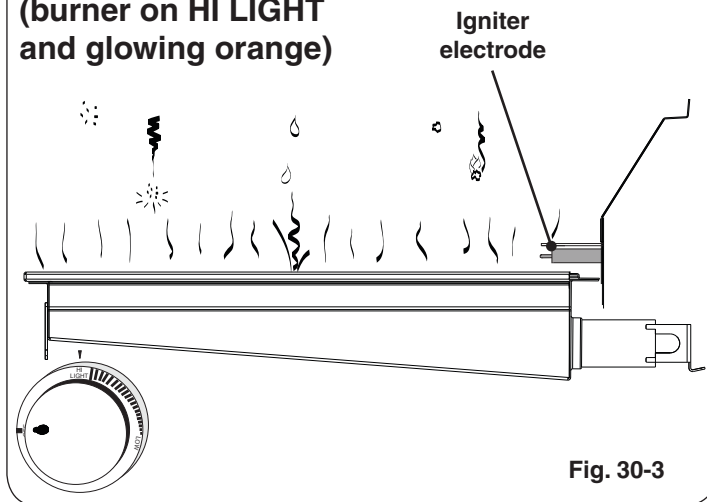

Fig. 30-3
- **DO NOT place food on the cooking grid until the infrared burner glows orange (Fig. 30-3).** Drippings are heated and evaporate instead of sticking to and impairing burner function.